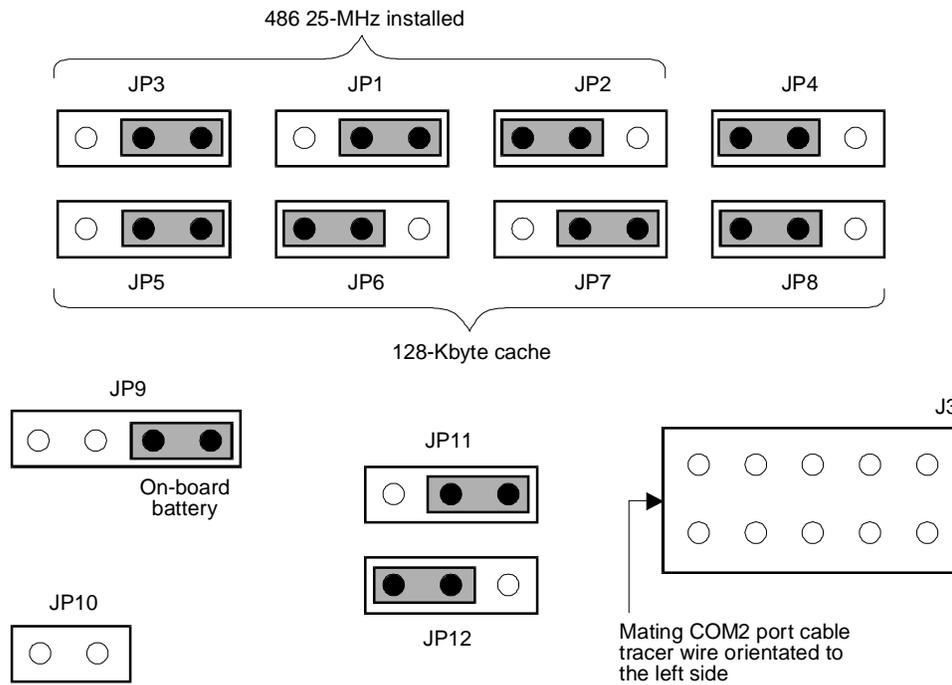

Figure 9-3. Jumper Settings for the 486 25MHz CPU Card, Version 1
2. Verify switch settings. Figure 9-3 illustrates the switch settings.
Jumpers on the 486 CPU circuit card, Revision 1, should be set as indicated in Figure 9-3.